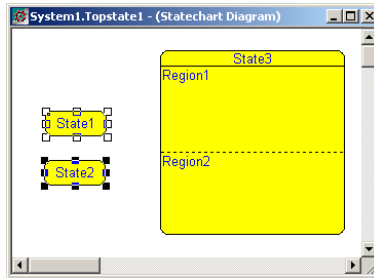

Figure 58: Selection of states to be moved (Designer)
- 2 Release the mouse button. The states will be marked with squares. See *Figure 58*, page 74.